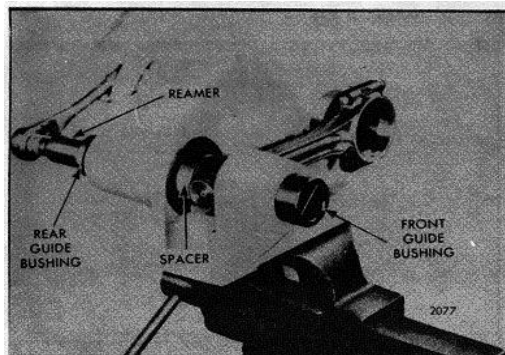

Fig. 8 - Reaming Bushings
- C. Place the crankshaft end of the connecting rod on the arbor of the fixture (Fig. 8). Tighten the nuts on the 3/8"-24 bolts (In-line engines) to 40-45 lb-ft torque..